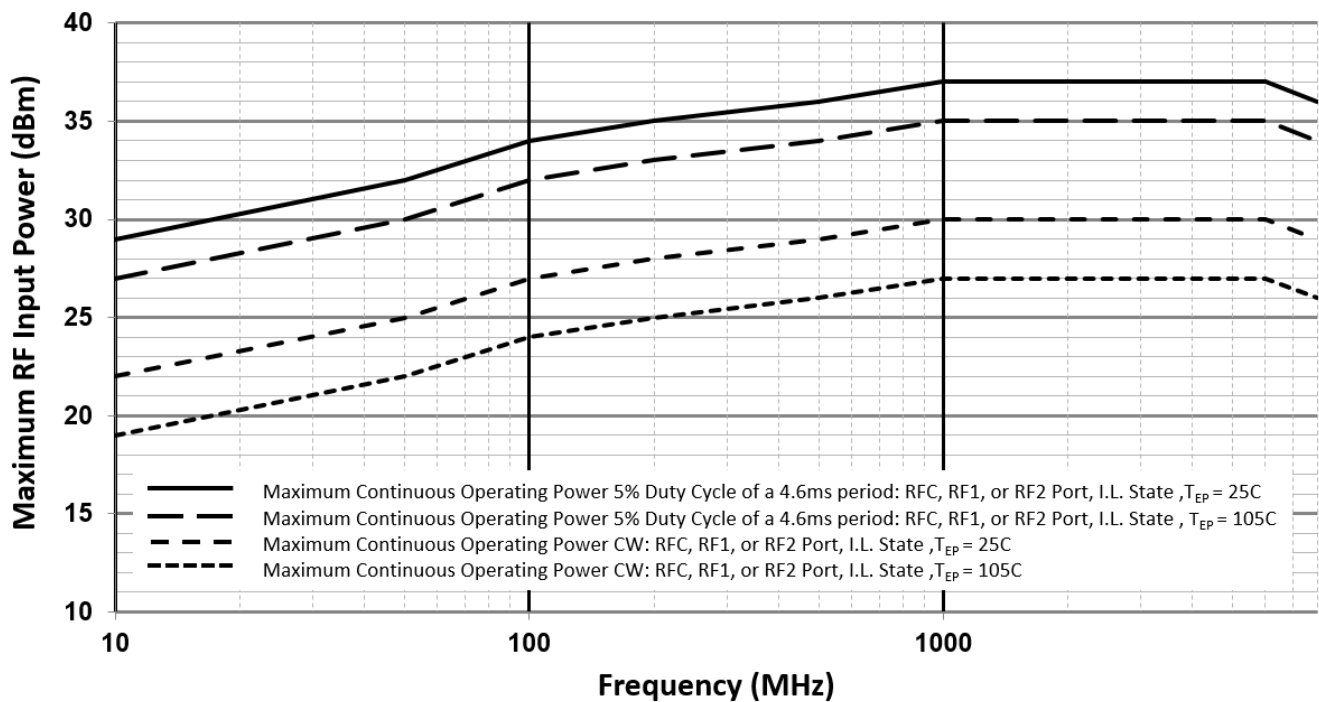

Figure 3. Maximum RF Input Operating Power vs. RF Frequency ($Z_S = Z_L = 50\Omega$)
- Levels based on: $V_{CC} = 2.7V$ to $5.5V$, $100MHz \leq f_{RF} \leq 8GHz$, $Z_S = Z_L = 50\Omega$. See Figure 3 for power handling derating vs. RF frequency.
- The input 1dB compression point is a linearity figure of merit. Refer to the Absolute Maximum Ratings section and Figure 3 for the maximum RF input power.